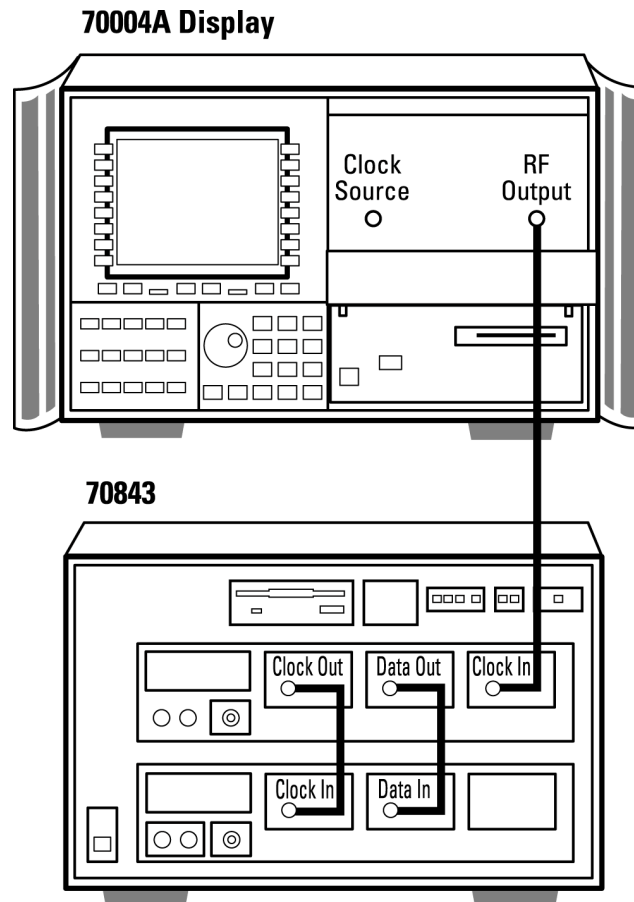

Figure 5-4 System Back-to-Back Connection
2. Connect the pattern generator DATA OUT and CLOCK OUT ports to the error detector DATA IN and CLOCK IN ports respectively. Terminate any unused ports with 50 $\Omega$  terminations (Agilent part number 1250-2121). See Figure 5-4 on page 5-8. Ensure the Agilent 70843 error performance analyzer and Agilent 70004A display rear-panel HP-MSIB ports are connected.